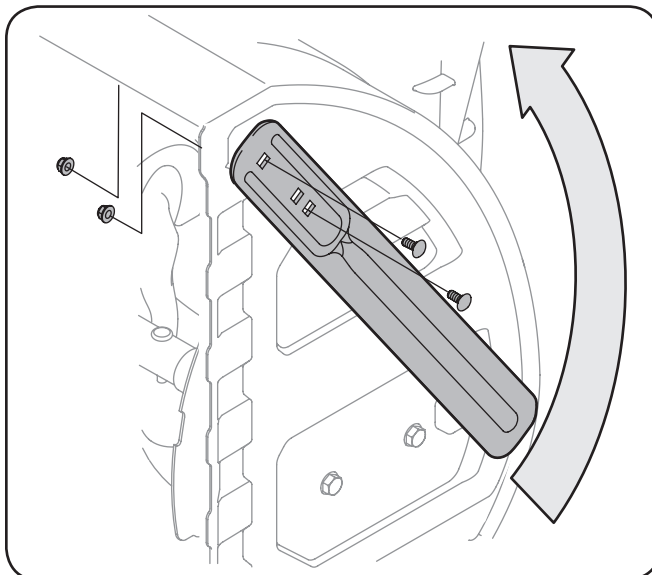

Figure 3-22
1. Remove the four flange nuts (two on each side) and carriage bolts. Place drift cutter in upright position and re-secure. See Figure 3-22.